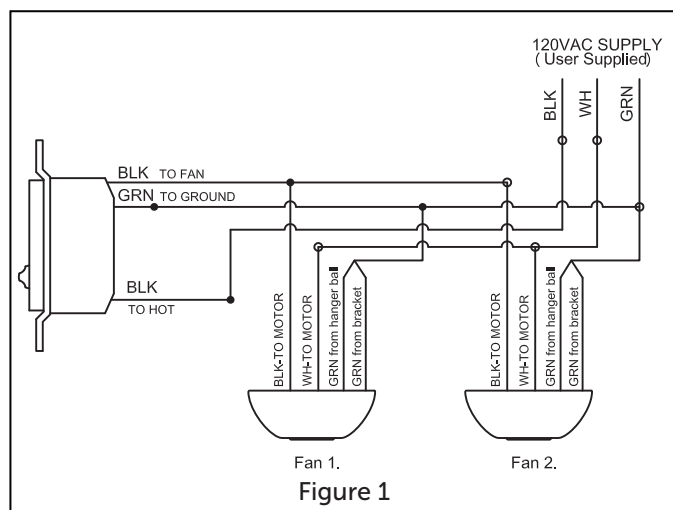

Figure 1
1. Installing Wall Control (Figures 1 & 2):
- Set the knob and light switch of the wall control in the off (0) position.
- Make wiring connections with wire nuts as shown in Figure 1.